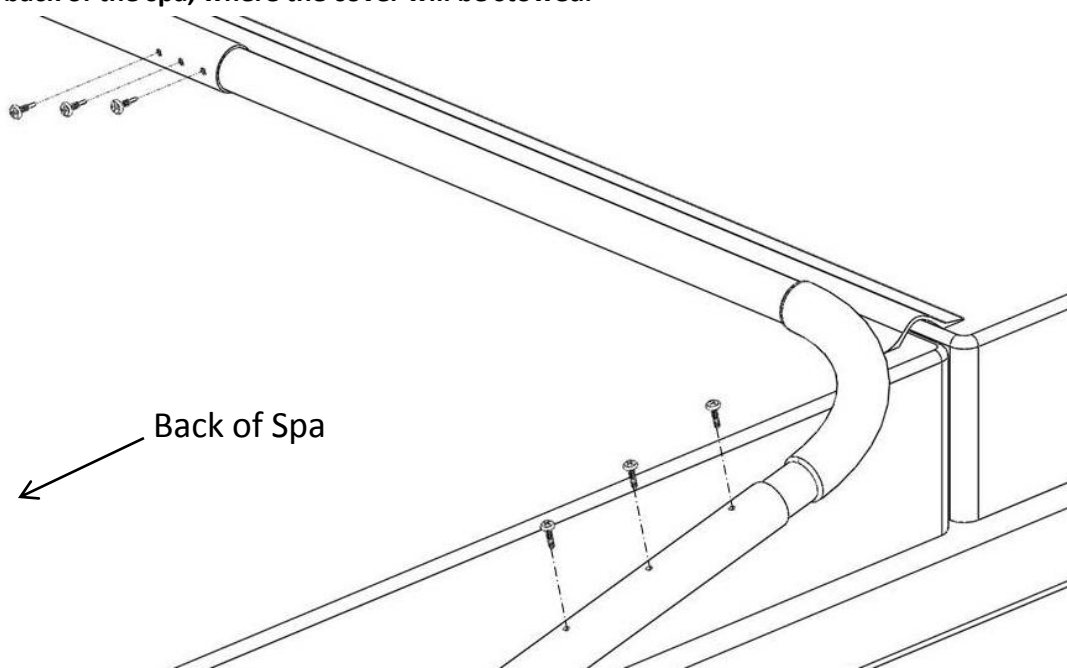

Figure 9
9. Using the #10 x 5/8" Self Tapping Screws (EX-H) to fasten the Support Arms (EX-A) to the Pivot Arms (EX-B) and the Center Coupler (EX-C) and, if necessary, the Center Coupler Extension (EX-D). See Fig 9.